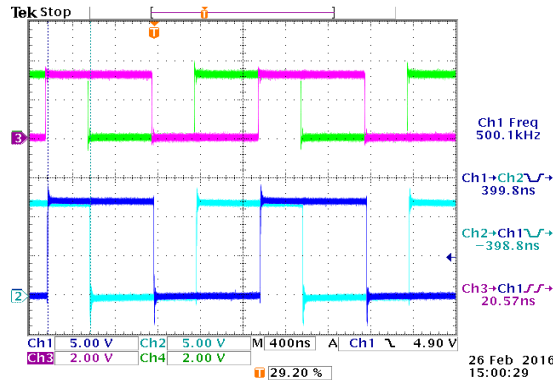

Figure 4. Overlap is Allowed When DT Connected to VCCI (Channels 3 and 4 are PWM Inputs, Channels 1 and 2 are Driver Outputs)
The dead time (DT) between the outputs of the two channels is decided by inputs (see Figure 4). Overlap between two output channels is allowed. Figure 4 shows a waveform with overlapped operations.